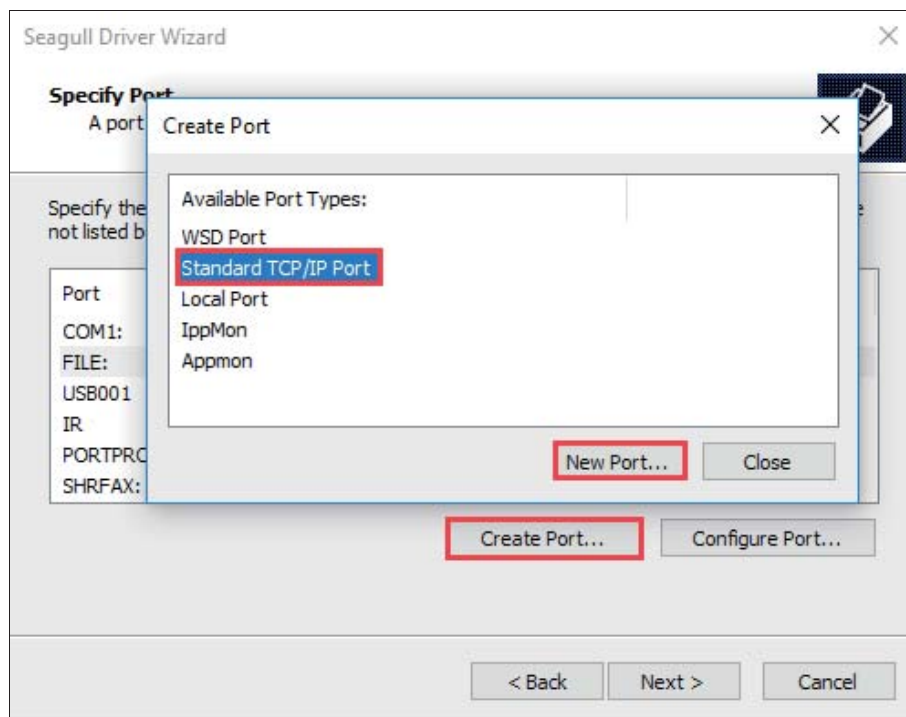

Figure 2-37 Create Port
- 5. On the “Specify Port” screen, click “Create Port...” to bring up “Create Port” dialog box, select “Standard TCP/IP Port” - “New Port...”, as shown in Figure 2-37.